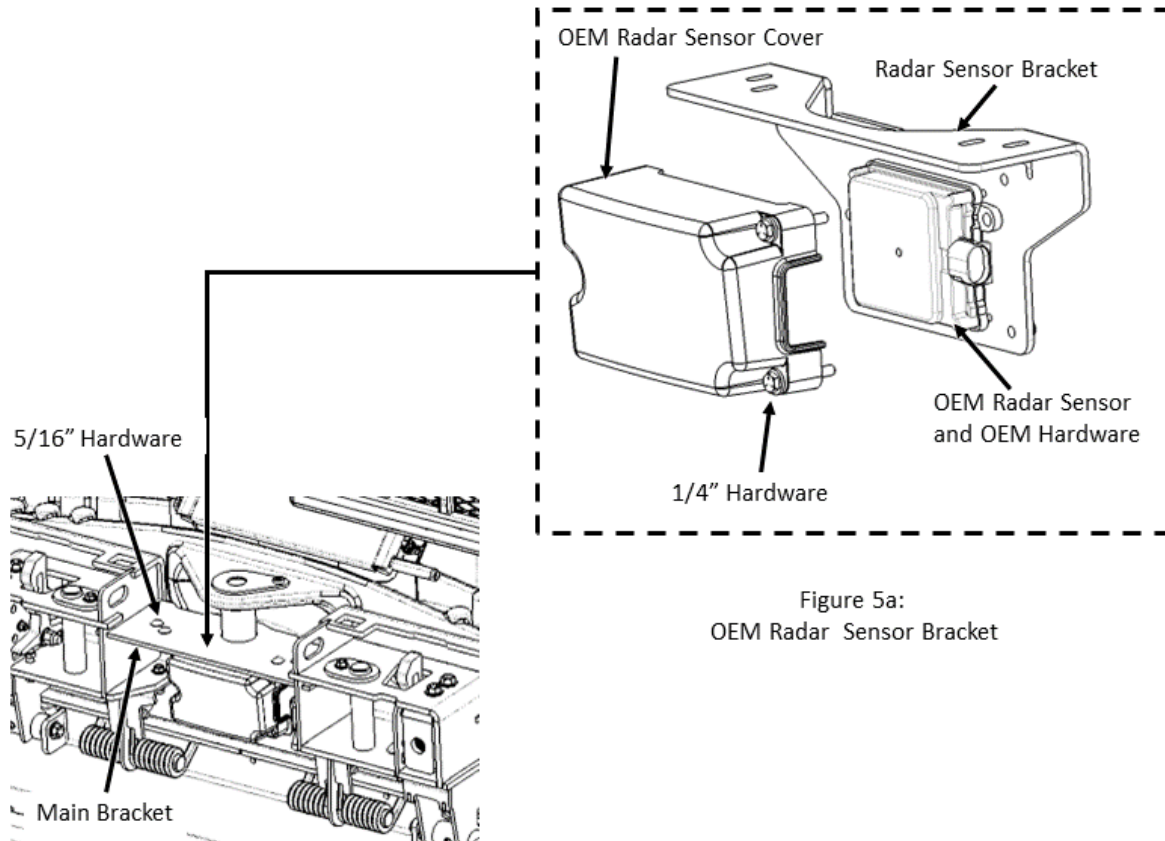

Figure 5a:
1. Mount the Radar Sensor using OEM Hardware and OEM Radar Sensor Cover to HERD Radar Sensor Bracket using the provided 1/4" Hardware; see Figure 5a.